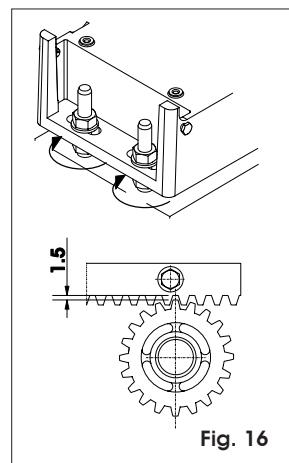

Fig. 16
- When the rack has been installed, to ensure it meshes correctly with the pinion, we advise you to lower the gearmotor position by about 1.5 mm (Fig.16).